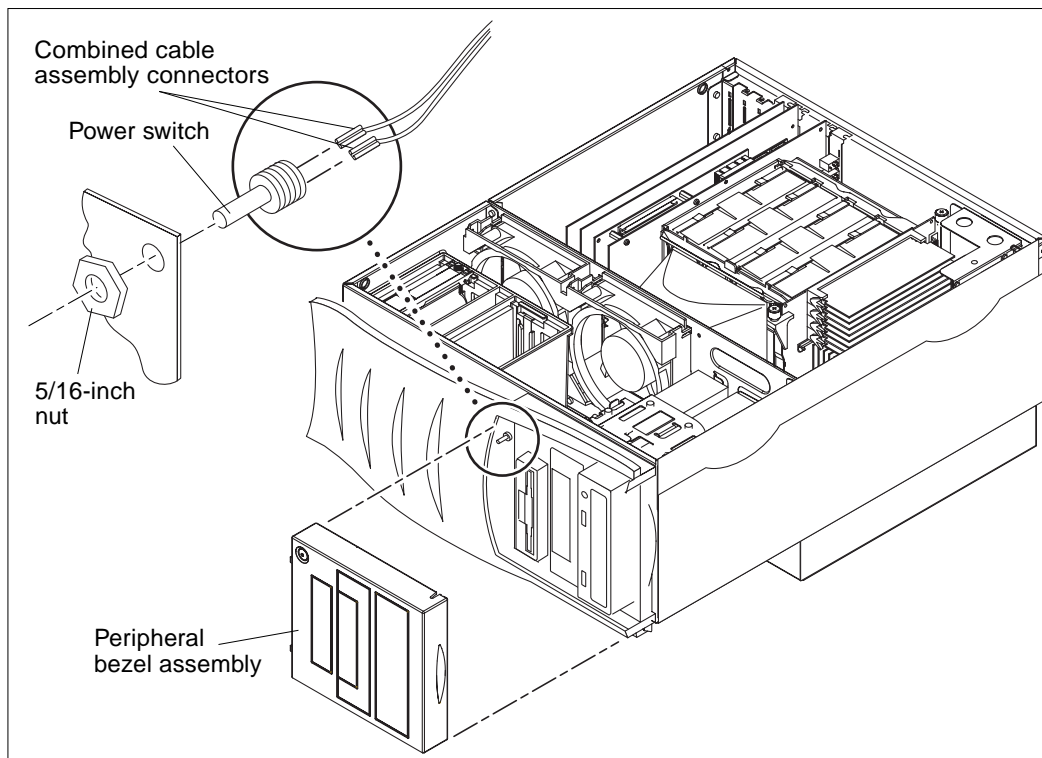

FIGURE 7-3 Removing and Replacing the Power Switch Assembly
**2. Attach the antistatic wrist strap** (FIGURE 7-3).
**4. Remove the power switch assembly as follows** (FIGURE 7-3):
1. **Replace the power switch assembly as follows (FIGURE 7-3):**